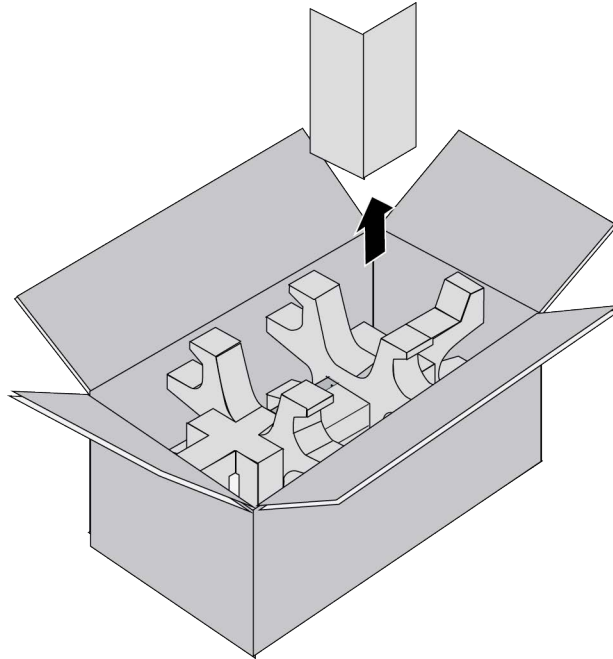

Figure 56. Removing the Partition from the PWR600 AC Power Supply Shipping Box
2. Remove the partition from the shipping box. Refer to Figure 56 on page 120.